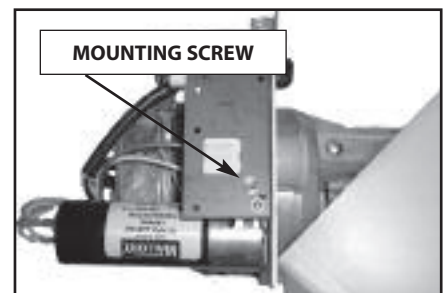

Fig. 2
4. **REMOVE** and retain the receiver mounting screw. **FIG 2**
6. **INSTALL** receiver board to bracket and install mounting screw. **FIG 2**